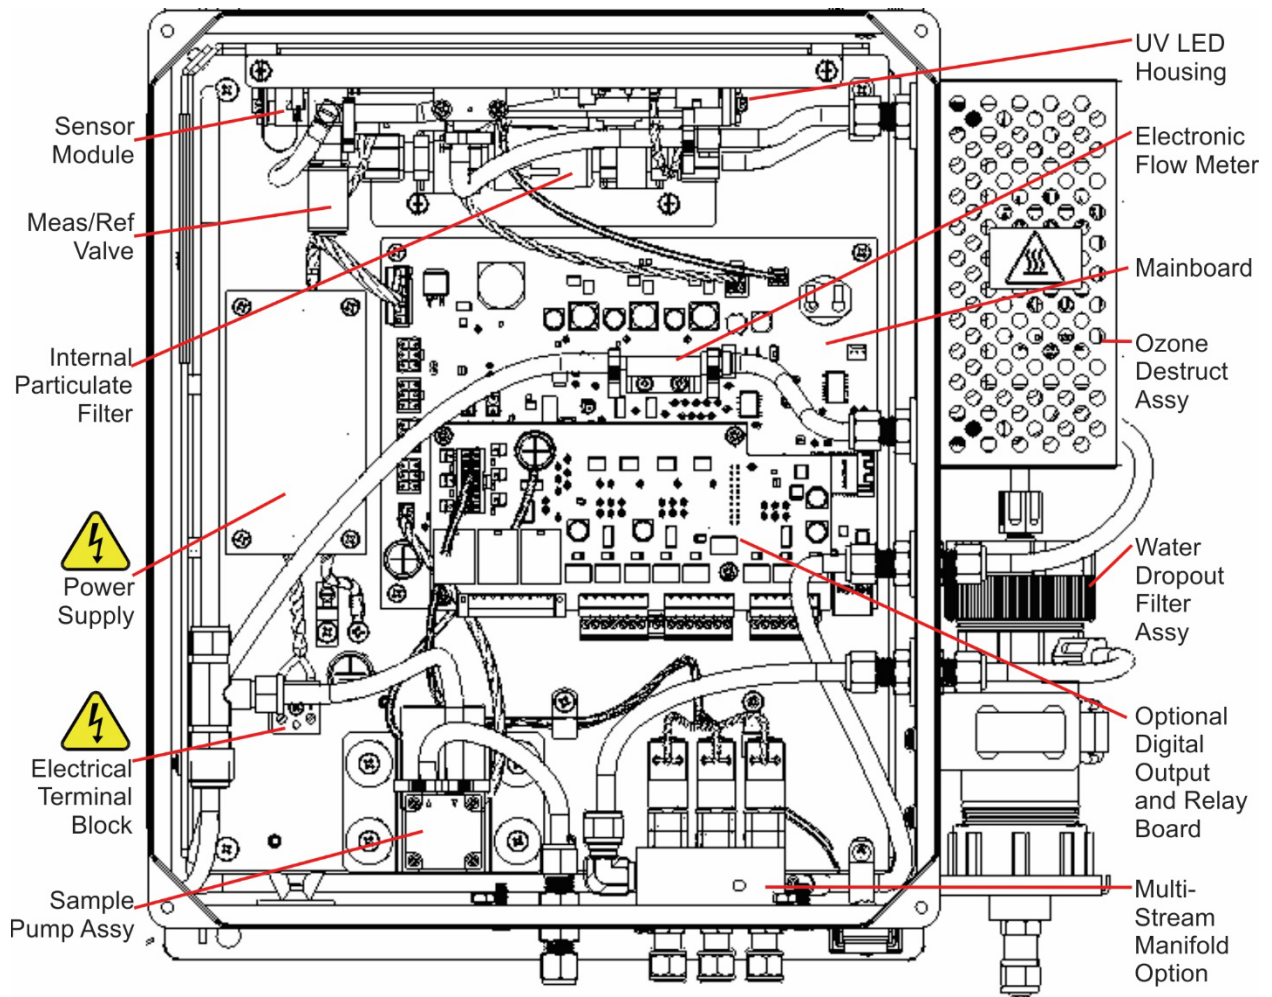

Figure 7-1. Instrument Layout
Figure 7-1 shows the internal layout of the 480L as reference in the procedures that follow.
3. Locate the internal particulate filter (see Figure 7-1 above). Un-strap the filter from the two plastic hold-down clamps. Note the arrow on the filter showing flow direction.
2. Open front panel and locate sample pump assembly (See Figure 7-1).
2. Open front panel and locate sensor module assembly (Figure 7-1).